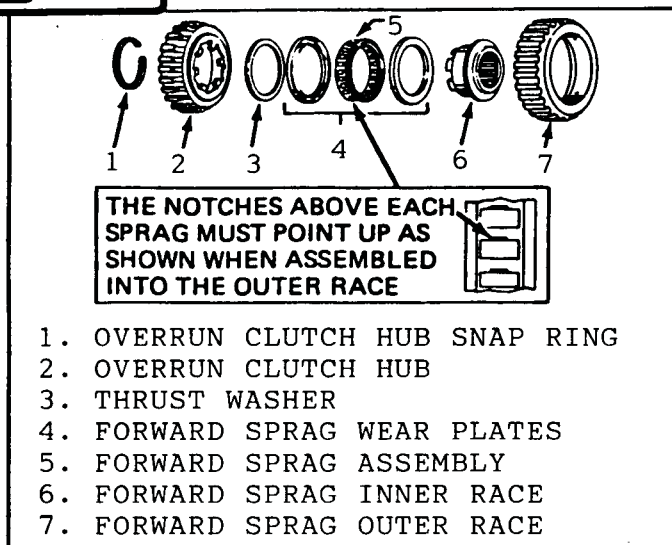

Figure 82
7. Install overrun clutch hub, and overrun hub snap ring (Figure 82).